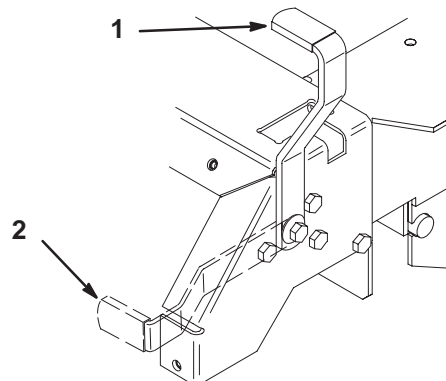

Figure 12
2. Pull back and up on the parking brake lever to set the parking brake (Fig. 12). The parking brake lever should stay firmly in the engaged position.
1. Push forward and down on the parking brake lever to release the parking brake (Fig. 12). The parking brake is disengaged.